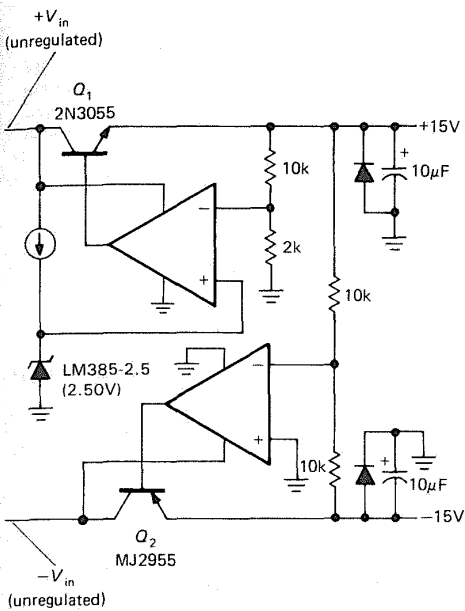

Figure 6.34. Dual-tracking regulator.
- **Dual tracking regulators.** Given the need for regulated split supplies, you might wonder why there aren't "dual 3-terminal regulators." Wonder no more – they exist and are known as "dual tracking regulators." To understand why they have such a complicated name, take a look at Figure 6.34, which shows the classic dual tracking regulator circuit. Q_1 is the pass transistor for a conventional positive regulated supply. The positive regulated output is then simply used as the reference for a negative supply. The lower error amplifier controls the negative output by comparing the average of the two output voltages with ground, thus giving equal 15 volt positive and negative regulated outputs. The positive supply can be any of the configurations we have already talked about; if it is an adjustable regulator, the negative output follows any changes in the positive regulated output. In practice, it is wise to include current-limiting circuitry, not shown in Figure 6.34 for simplicity.